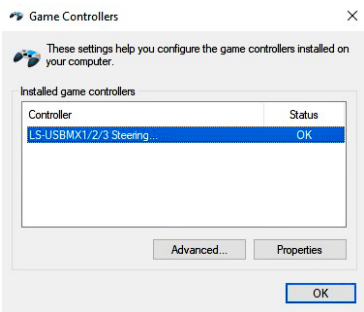

Fig. 5
• In «control panel» menu, then click on «devices and printers», icon, in the window that opens, select «LS-USBMX 1/2/3 Steering Wheel W/Vibration», short-cut, right-click on «Game controllers settings» (Fig. 5).